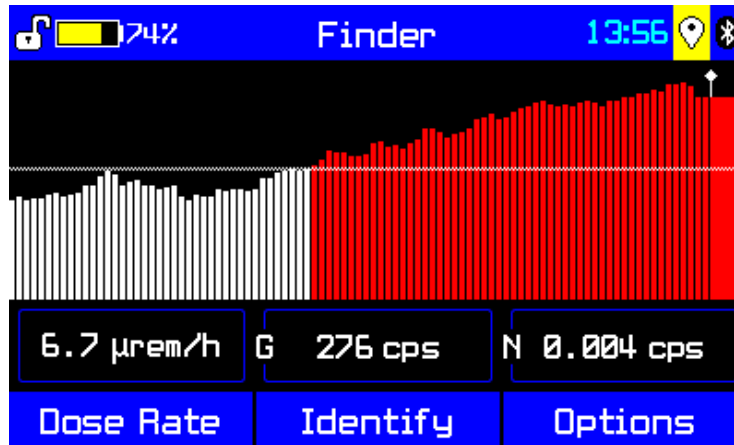

Figure 3-7: Finder mode: object scan with elevated radiation
4. After the background measurement has finished, the Finder mode screen is displayed (Figure 3-7).